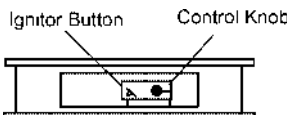

Figure 18 - Control Knob and Ignitor Button Location
4. Wait five (5) minutes to clear out any gas. Then smell for gas, including near the floor. If you smell gas, **STOP!** Follow "B" in the safety information. If you don't smell gas, go to the next step.
5. Turn control knob counterclockwise ↻ to the PILOT position. Press in control knob for five (5) seconds (see Figure 18).